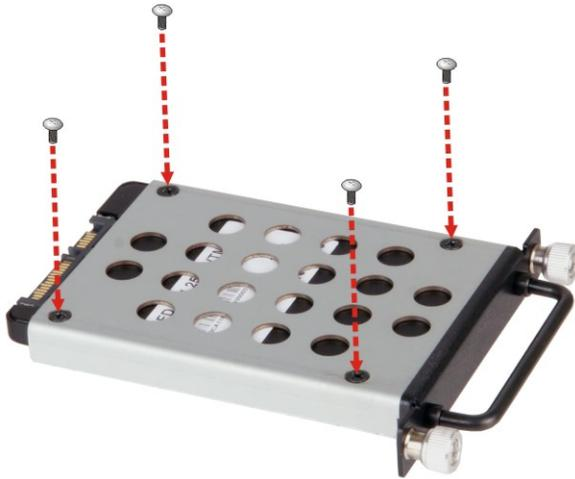

Figure 3-17: SSD Retention Screws
Step 3: Place an SSD onto the bracket and secure the SSD with the bracket by inserting four retention screws (M3*4) into the bottom of the SSD (Figure 3-17).